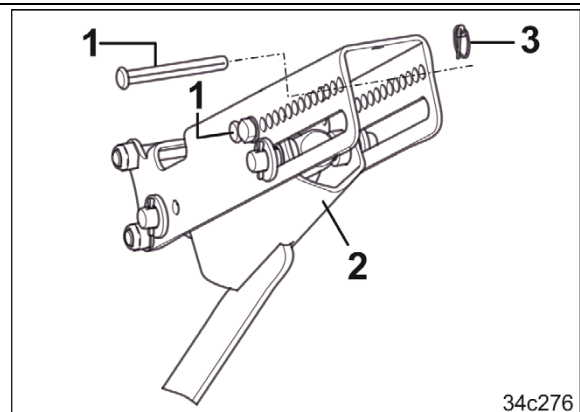

Fig. 125
2. Insert one pin each (Fig. 125/1) below and above the stop (Fig. 125/2) into the adjuster segment and secure with linch pins (Fig. 125/3).